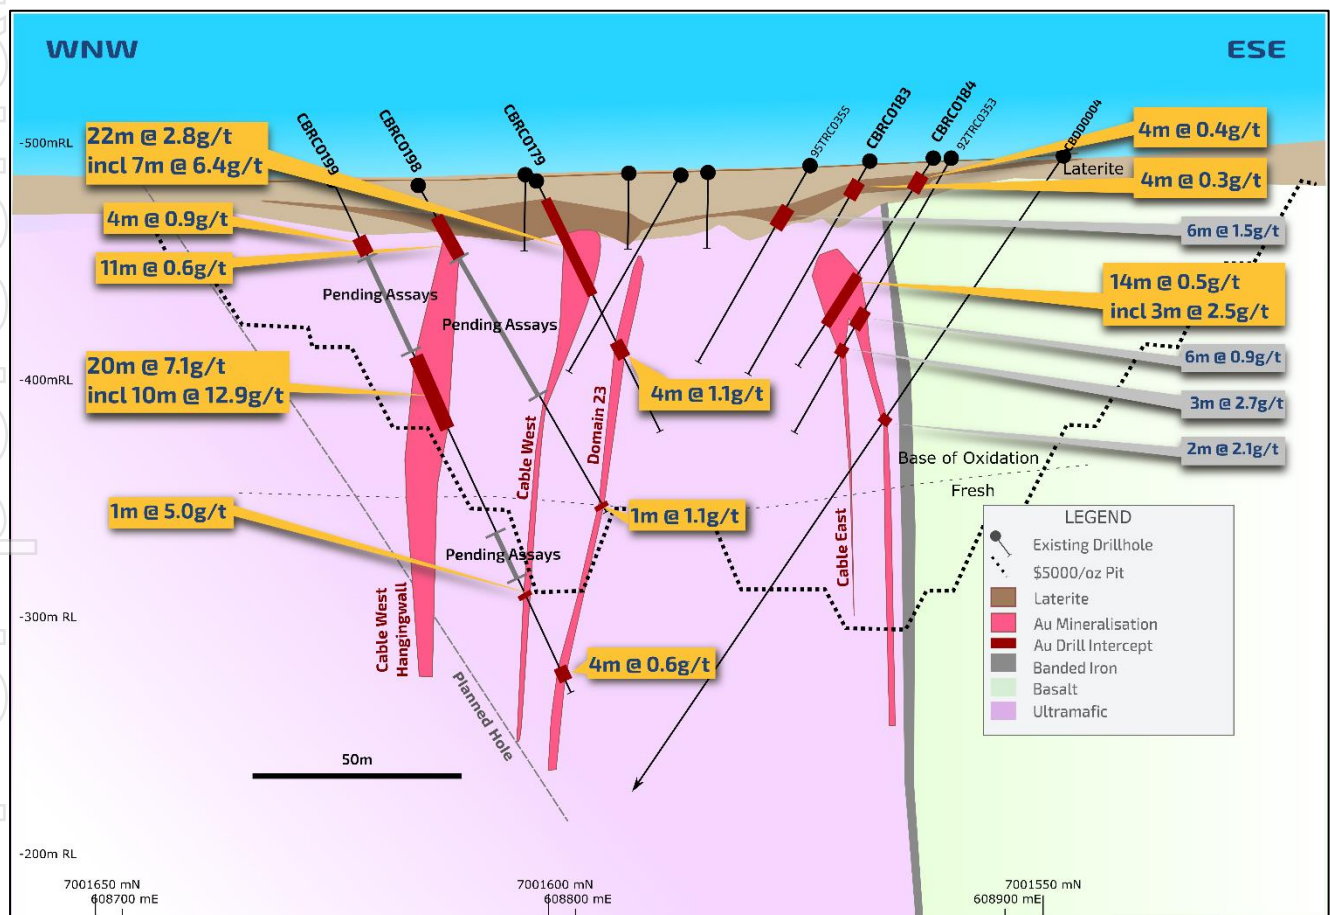

Figure 2 - Cross section 1 through Cable highlighting recent results in CBRC0179, CBRC0198 and CBRC0199 (recent results in yellow boxes)
- The upper part of the hanging wall structure falls partly within the pit optimisations (Figure 2 and 3) generated as part of the Mining Technical Study underway, previously modelled as unmineralised.
The upper part of the Cable West Hangingwall structure falls within the pit optimisations (Figure 2 and 3) generated as part of the Mining Technical Study underway.